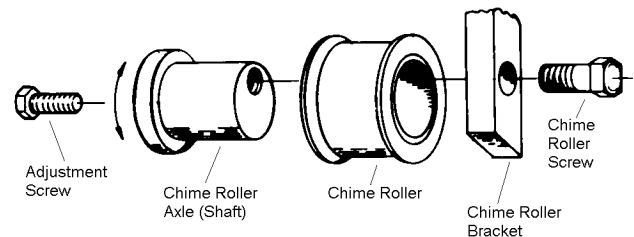

Figure 4
2. Using two 9/16" open or box end wrenches, loosen the chime roller screw while holding the adjustment screw (Figure 4).
3. The chime roller axle (shaft) is eccentric to the outside diameter (Figure 4). Turn the adjustment screw while holding the chime roller screw to raise or lower the cutting position.